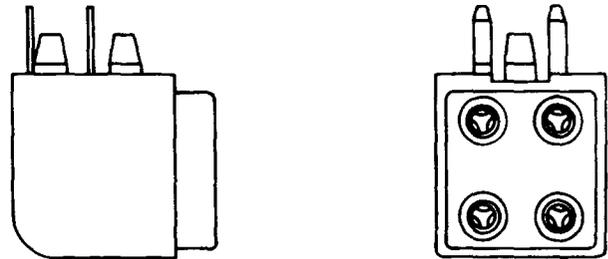

Fig. 2 — KS-20500, L1 or L2, Pin Jack
2.02 **KS-20500, L1 and L2:** The KS-20500, L1, and L2, jacks (Fig. 2) are pin-type jacks equipped with four tabs for connection and two mounting feet for mounting to a printed wiring board.